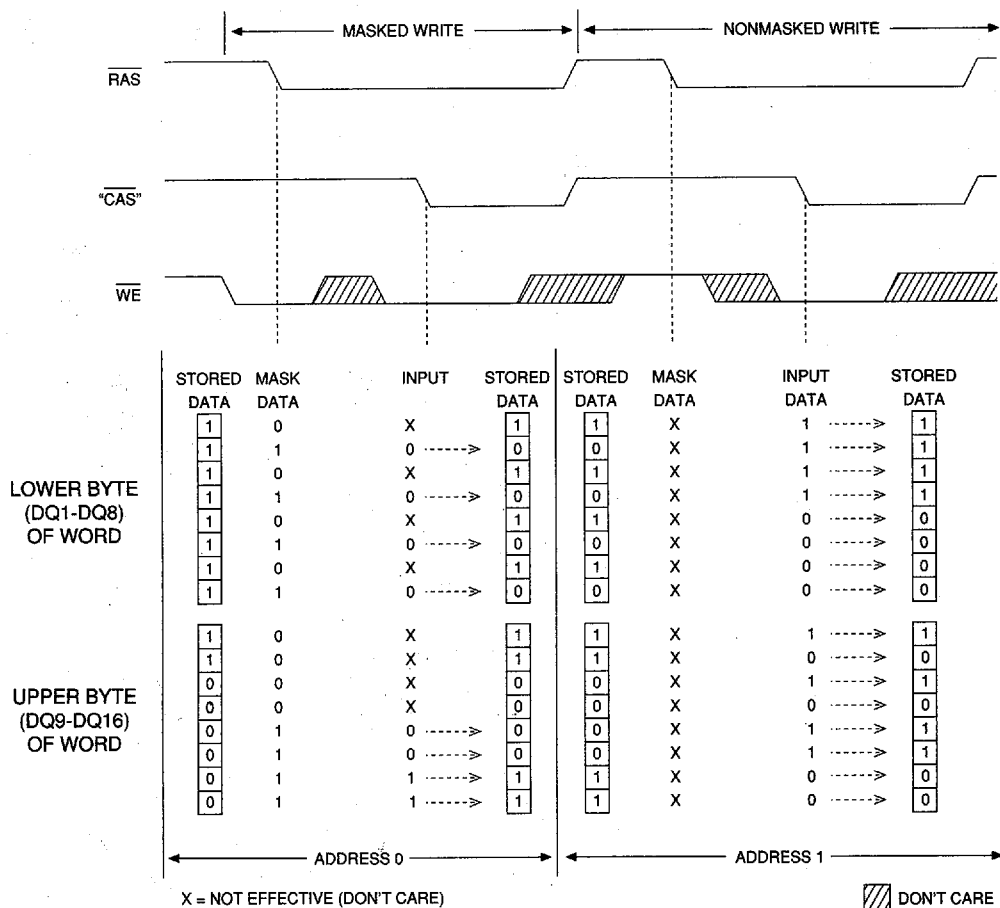

Figure 5
Figure 4 illustrates the MT4C16258 MASKED WRITE operation and Figure 5 illustrates the MT4C16259 MASKED WRITE operation.
3. Data-in will be dependent on the mask provided (MT4C16259 only). Refer to Figure 5.